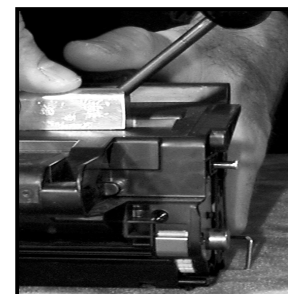

Figure 3
3. Once the right pin has been dislodged, move the H4TL10 to the left side until it stops. Hold the handle opposite the pin to be removed (position your thumb so that it is in the middle of the top of the tool Fig. 3), and begin applying pressure to the pin.